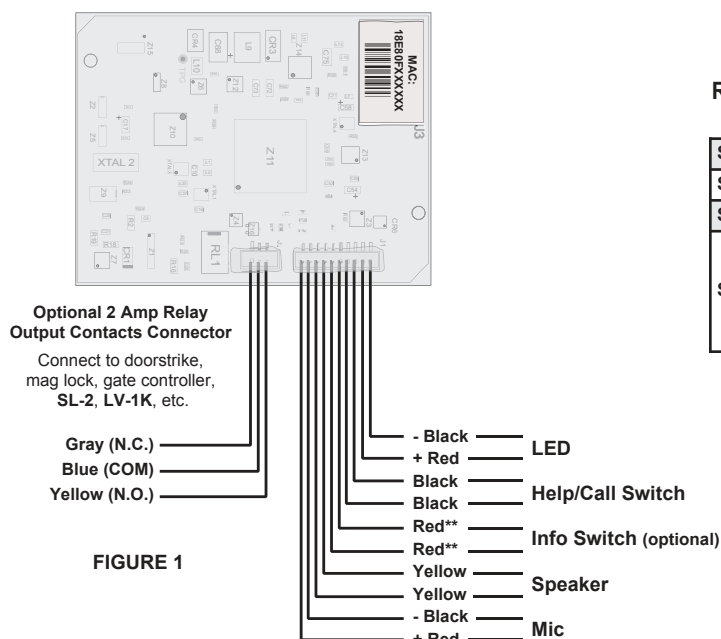

FIGURE 1
Step 4.	Using the supplied gel-filled butt connectors, connect corresponding wires from replacement cable to the previously cut wires from the LED, Help/Call switch, optional Info switch, Speaker and Microphone. See FIGURE 1 for wire color and polarity.